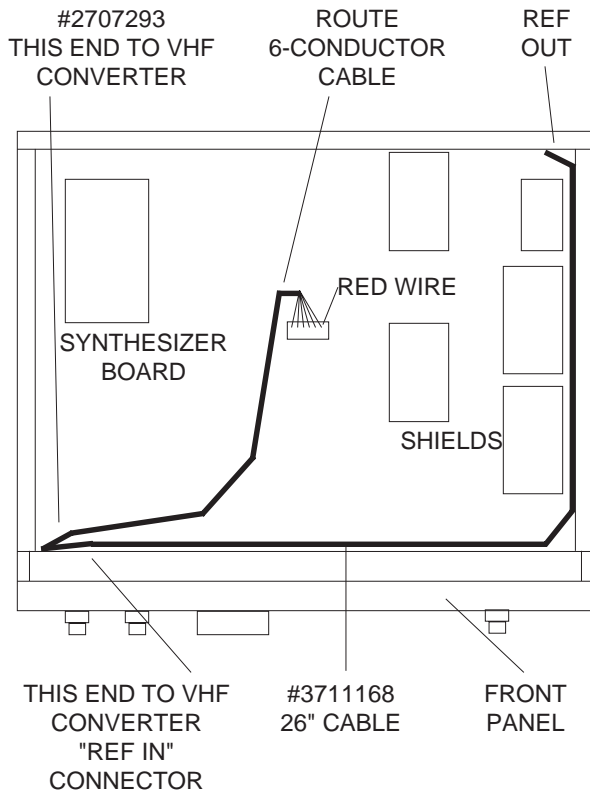

FIGURE 3, BOTTOM VIEW
6) Position the receiver so it rests on its left-hand side (facing the front of the receiver). Locate the unconnected end of the 6-conductor cable and plug it onto the synthesizer board connector header with the **RED** conductor end of the cable connector oriented as shown in Figure 3. Position the cable assembly, routing it as shown, to keep it clear of the microprocessor and related circuits area of the board assembly. Reduce any excess slack of the cable near the VHF converter to provide proper routing on its approach to the synthesizer board connector header.
7) Connect the supplied 26" "REF" coaxial cable #3711168 to the 'REF OUT' connector located near the right rear corner of the synthesizer board. Position the cable as shown in Figure 3, routing the free end of the coax cable along the front panel (near volume control) and up to the VHF Converter assembly end nearest the front panel.